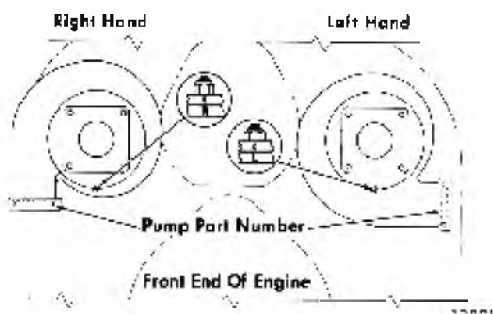

Fig. 10-13 - Pump Housing Positioning
3. An arrow is cast at the bottom of the pump shaft housing and the impeller housing has a letter "R" and "L". For a right bank pump, assemble the impeller housing so that "R" is opposite the arrow on the shaft housing or for a left bank pump, the "L" is opposite the arrow, as shown in Fig. 10-13.
1. The pumps are installed in the position shown in Fig. 10-13 for the right and left bank. Torque
2. The part number of the pump is located on a plate attached to the pump discharge flange, as shown in Fig. 10-13.